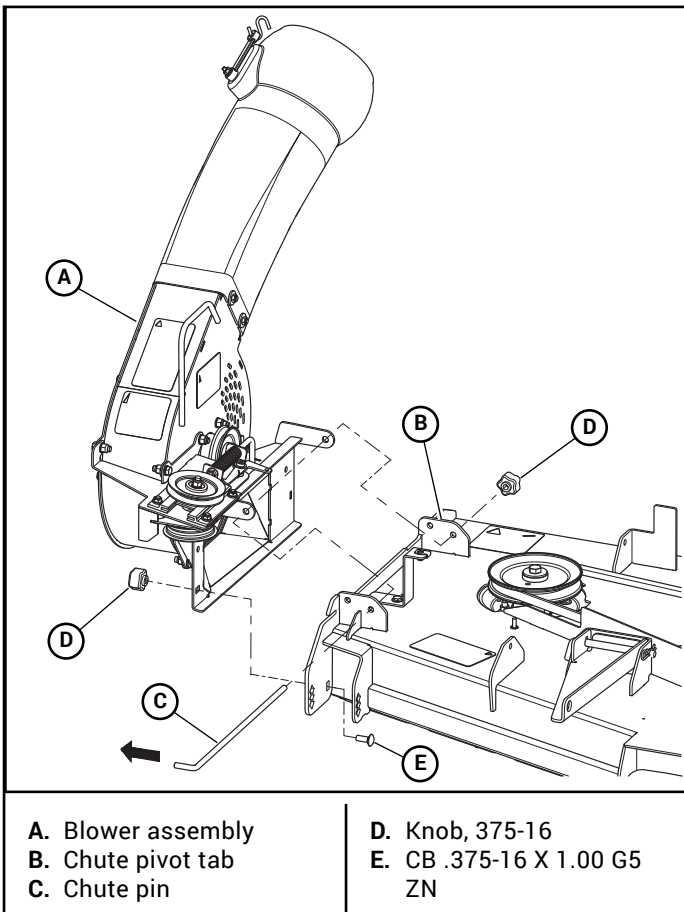

Figure 3-14
19. Attach the blower assembly to the deck. Figure 3-14
IMPORTANT: Make sure the head of the chute pin is pointing towards the blower unit. Figure 3-14